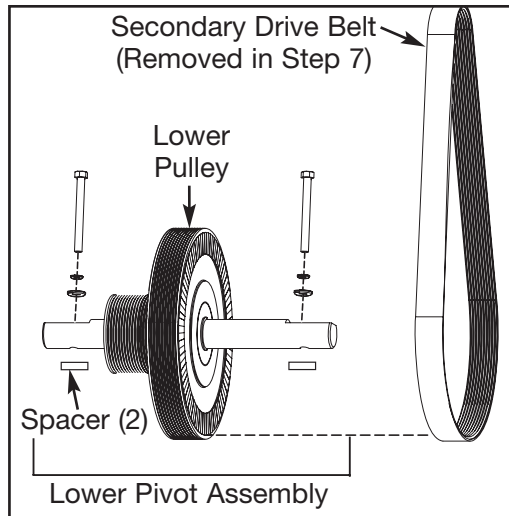

Figure 8
- B. Remove the lower pivot assembly out of the secondary belt and from the frame. See Figure 8.